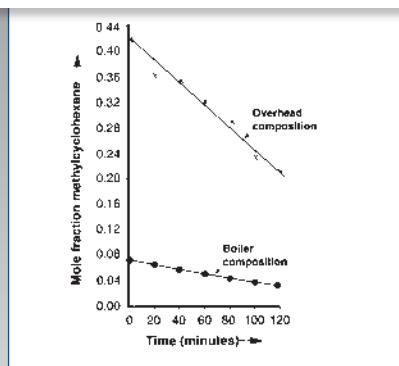

Fig. 4: Batch distillation:
- distillation at constant reflux ratio: variation of top product composition with time (Fig. 4)